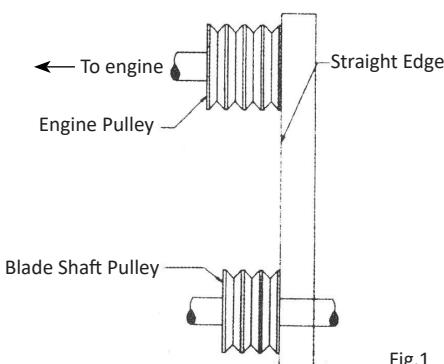

Fig.1
2. Take up tension until the belts are snug in the grooves. Run the drive for about five (5) minutes to "seat" the belts. If the belts slip, tighten them until they no longer slip at peak load. Most new belts will need additional tensioning after seating.
6. To check alignment, use a steel straight edge. See Figure 1.
7. Line up the straight edge along the outside face of both pulleys shown in the drawing. All pulleys have (2) set screws in the bottom of their grooves. Set screws require threadlocker.